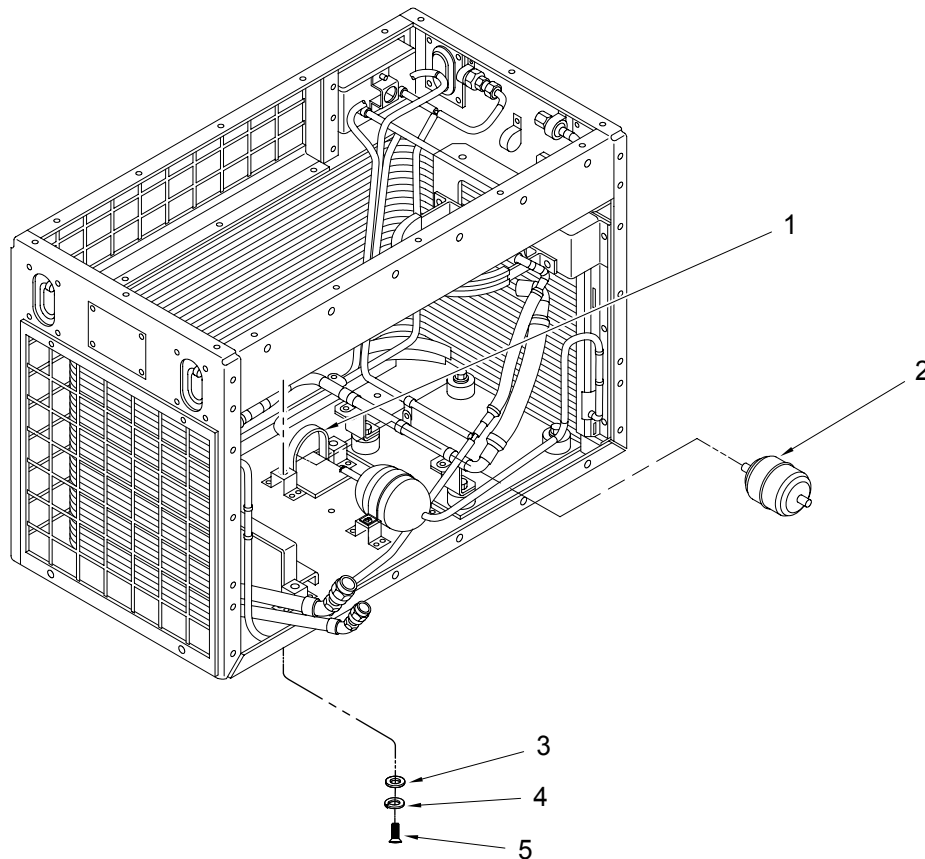

Figure 1. FILTER-DRYER REFRIGERANT.
2. Loosen screws (5), lockwashers (4) and flat washers (3) through bottom of condenser assembly securing filter-dryer bracket (1). See Figure 1.
3. Remove bracket (1) if necessary.
5. Slide filter-dryer (2) from bracket. Remove filter dryer. Note direction of flow arrow for installation. See Figure 1